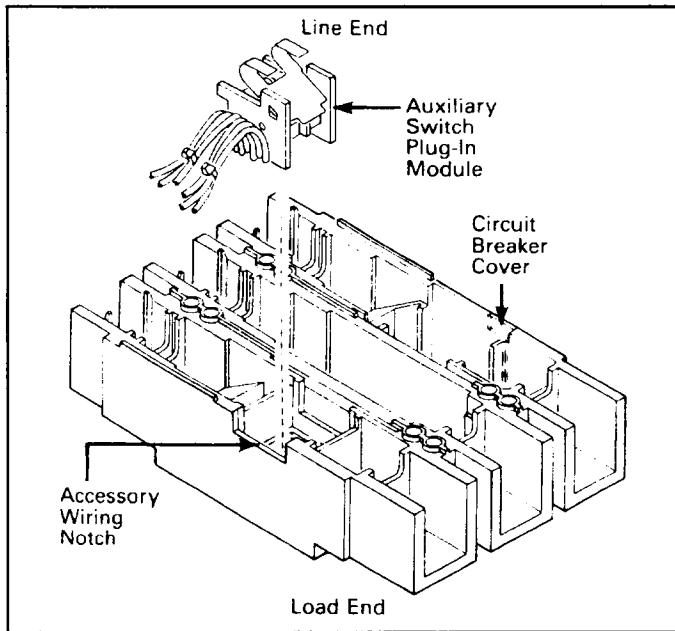

Fig. 2-3 Auxiliary Switch Installation
- 2-5. With cover in inverted position (Fig. 2-3), position auxiliary switch plug-in module as shown and slide into mounting cavity in circuit breaker cover.